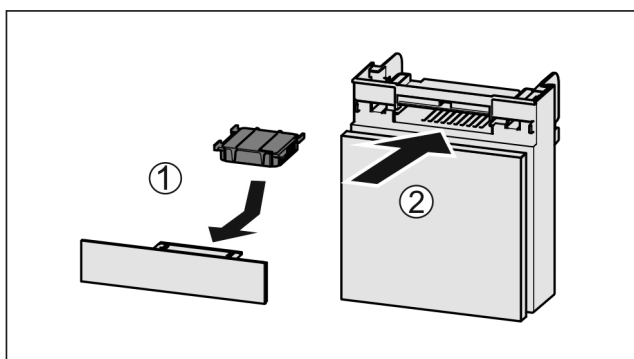

Fig. 141
- ▶ Insert the carbon filter as shown in the diagram *Fig. 141 (1)*.
- ▶ Push the compartment in *Fig. 141 (2)*.